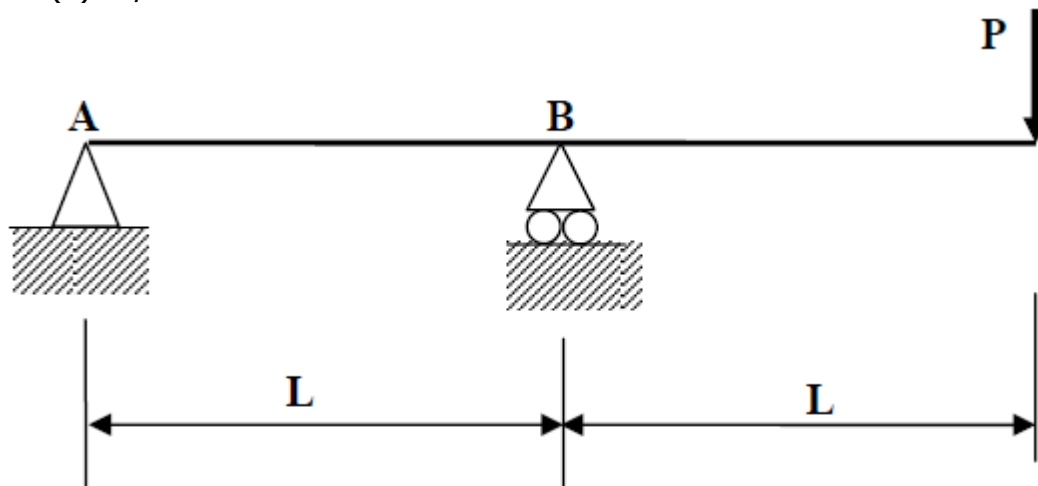

Fig.Q6
6. Find the position at which the maximum upward deflection for this beam with an overhang as shown in Fig.Q6 occurs.